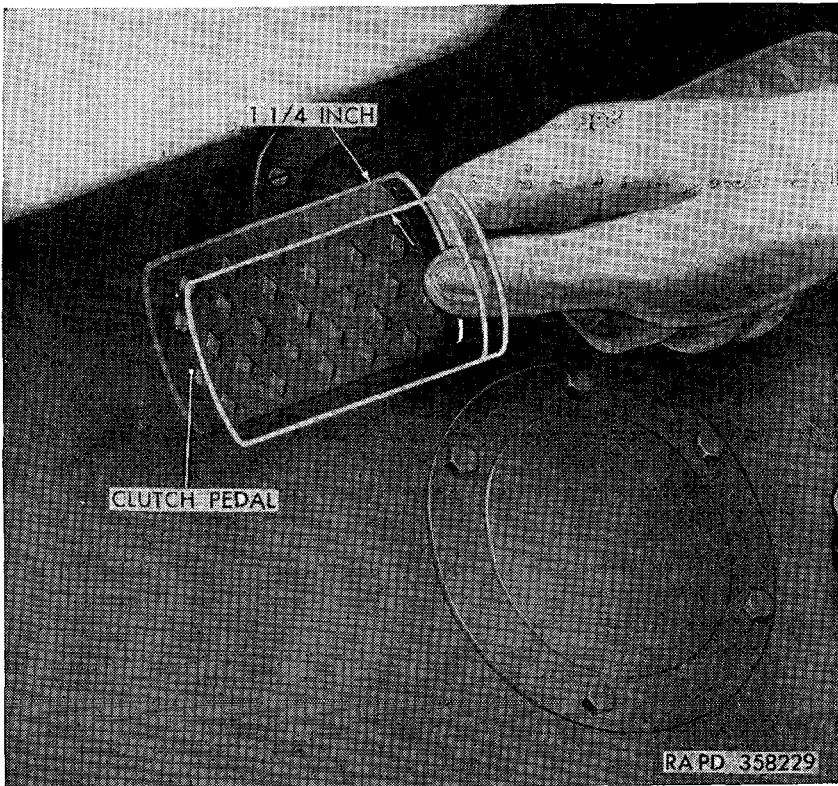

Figure 121. Clutch pedal free travel.
a. As the clutch facings wear, the free travel of the clutch pedal diminishes. Check the clutch pedal free travel (fig. 121) periodically to make certain the clutch pedal has at least $1\frac{1}{4}$ inches of free travel before the clutch starts to disengage.